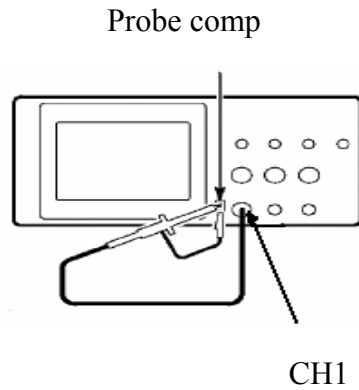

Fig. 5 Connection of the Probe
1. Set the attenuation coefficient of the probe in the menu as 10X and that of the switch in the probe as 10X, and connect the oscilloscope probe with the CH1 channel. If a probe hook tip is used, ensure that it keeps in close touch with the probe. Connect the probe tip with the signal connector of the probe compensator and connect the reference wire clamp with the ground wire connector of the probe connector, and then press the button AUTOSSET (see Fig. 5).